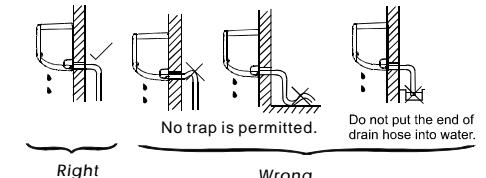

Fig.6
- Connect the drain hose as described in Fig.6. The drain hose should be inclined downward.